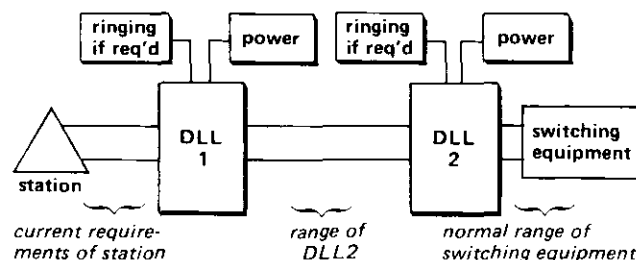

figure 4. Tandem DLL range limits
2.10 When the 7503 is operated in tandem with other DLL's (see figure 4), the maximum distance from the station to the nearest (first) DLL is determined by the current requirements of the station. The maximum distance from the first DLL to the next (second) DLL is determined by the station-side range of the second DLL, and so on. The maximum distance from the last DLL to the switching equipment depends upon the range of the switching equipment.